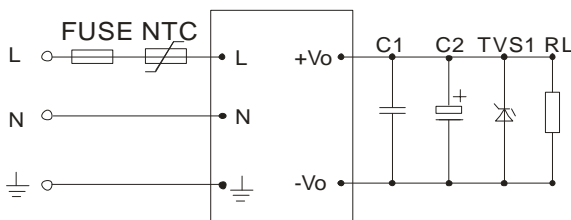
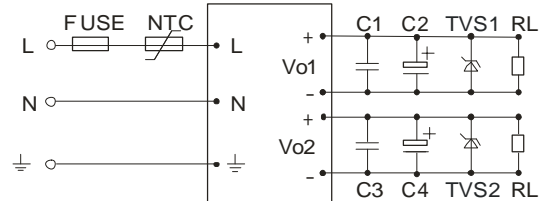

figure 1: LH** -10B**ER2(Single output)
figure 2: LH** -10D**ER2(Isolate Twin Output)
- For standard EMC requirement, please refer to figure 1 or figure 2, if higher EMC requirement ,please refer to figure 3